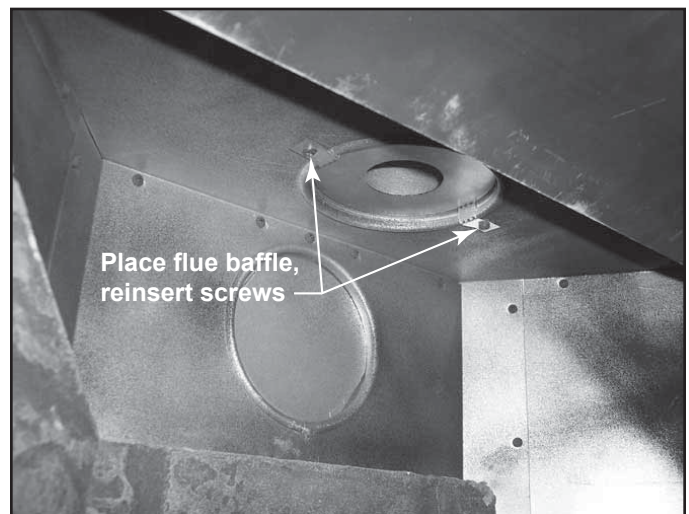

Figure 4.18 31-60 Foot Vertical Run
- The flue baffle will be turned to install inside the flue for vertical vent runs of 31-60 ft. See Figure 4.18.